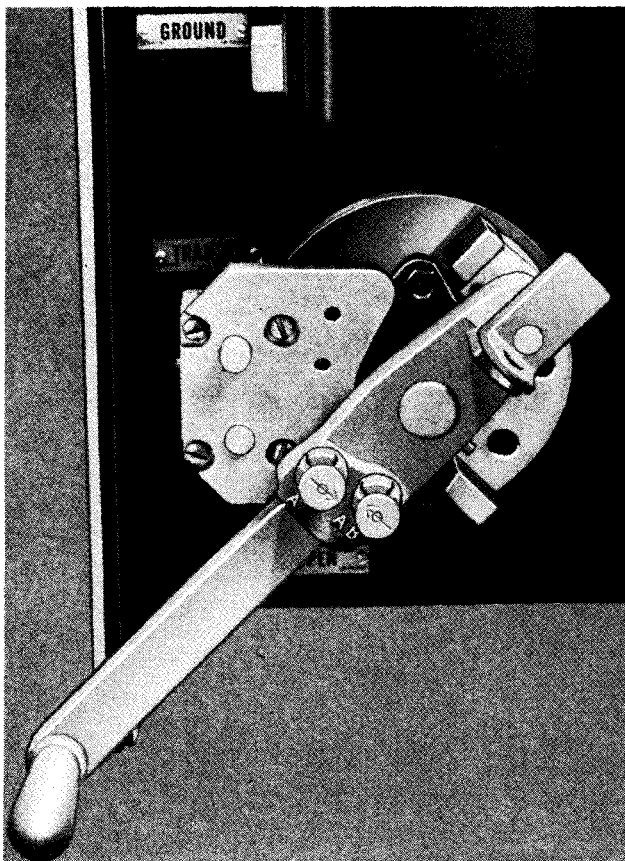

FIG. 6. Side View of Switch Showing Handle in Open Position.
**Phasing-Out High Voltage Cables.** Move the switch handle from "transformer" toward "ground" with the latch pins on the switch control set for phasing out cable. See Fig. 6.